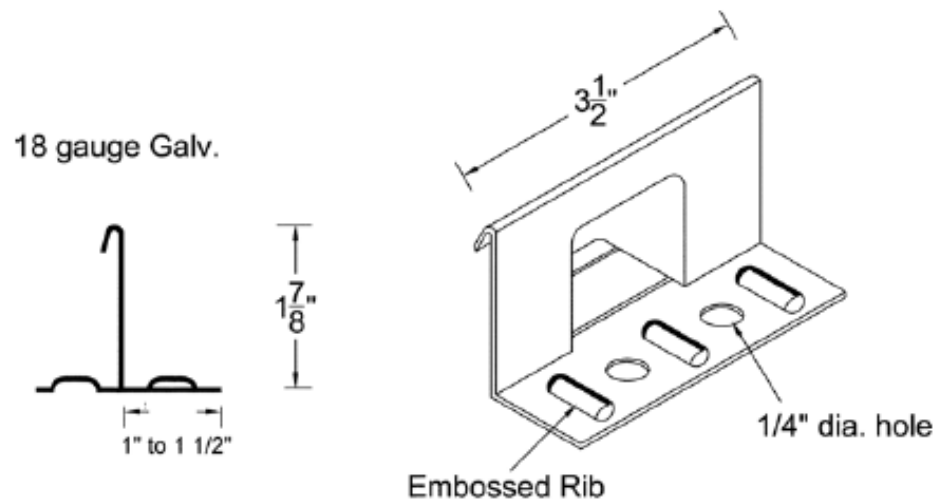

FIGURE 4—SL-1750 ANCHOR CLIP
4.2.2 SL-1750: The SL-1750 roof panels are installed on roofs having a minimum slope of 3:12 (25 percent). The roof panels are installed over the optional underlayment and secured to the sheathing with the panel clips shown in Figure 4. The clips are located at each panel rib side lap spaced 6 inches (152 mm) from all ends and at a maximum of 3 feet (914 mm) on center along the length of the rib, and fastened with a minimum of two No. 10 by 1-inch pan head corrosion-resistant screws. After installation of fasteners along one side, each panel is lapped over the preceding panel and snap-locked into place.